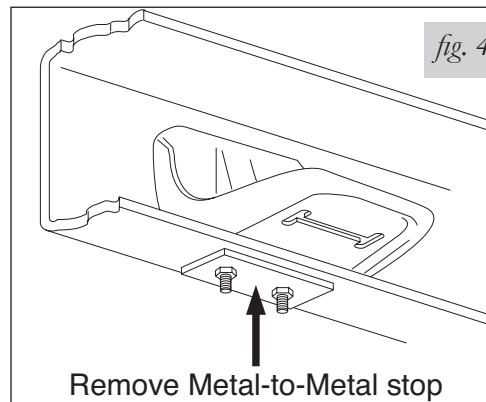

fig. 4
2. Remove the two nuts and bolts holding the metal to metal stop to the frame (Figure 4). Discard these parts. Replacement nuts and carriage bolts are provided.